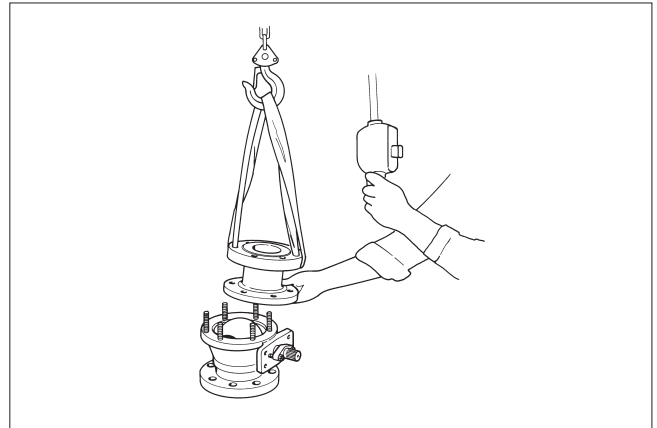

Fig. 16 Lifting a body cap
- Place the valve so that the body's hexagon nuts (16) / Body cap (2) point upwards. Use a surface that does not damage the flanges.
- Loosen the gland nuts (18).
- Loosen the body's hexagon nuts (16).
- Remove the body cap (2) from the valve. Should the ball seat (7) not stay on the body cap, keep it from falling while you are lifting it out by putting your fingers under the body cap (small sizes) or in the flow bore (large sizes). Watch out for your hand! Lower the body cap onto the surface in a standing position, i.e. onto its flange (see Figure 16).